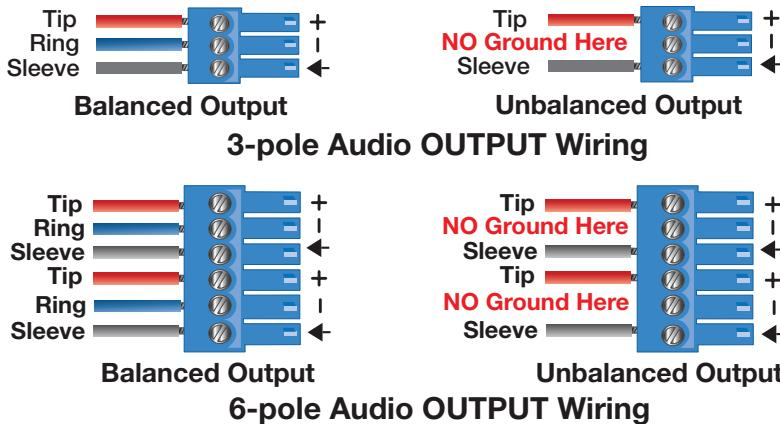

Figure 7. 3-pole and 6-pole Audio Output Wiring
- K** **Line outputs** — Use 3-pole or 6-pole 3.5 mm captive screw connectors to connect up to four mono balanced or unbalanced line level devices or two stereo devices (see figure 7 for wiring details).